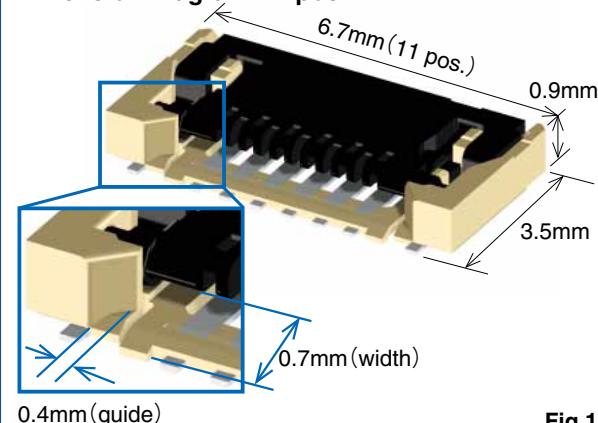

Fig.1
- Space saving design with 0.3mm pitch, 3.5mm depth, 0.9mm height (Fig.1).
- Wide guide for easy FPC insertion (Fig.1).
- 7 Fig.1 indicates the lock lever in an open condition. FPC can be extracted by opening the lock lever more than 45°.